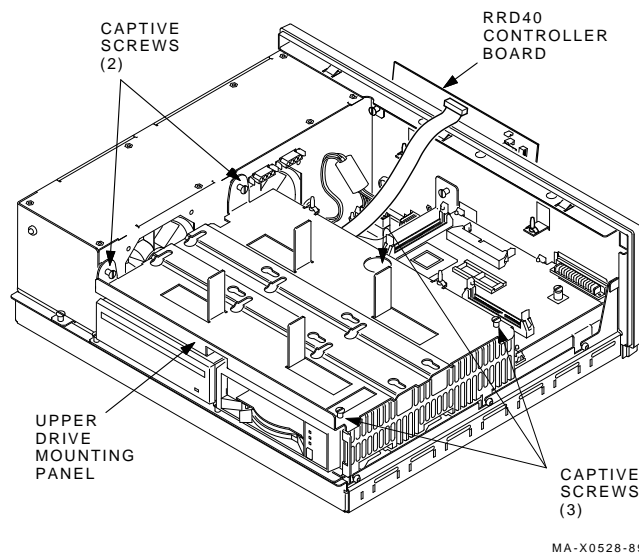

Figure 3-13 Unscrewing the Upper Drive Mounting Panel
3. Unscrew the five screws on the upper drive mounting panel (Figure 3-13) and lift the top panel from the lower panel.
1. Install the upper drive plate and tighten the five screws (Figure 3-13).